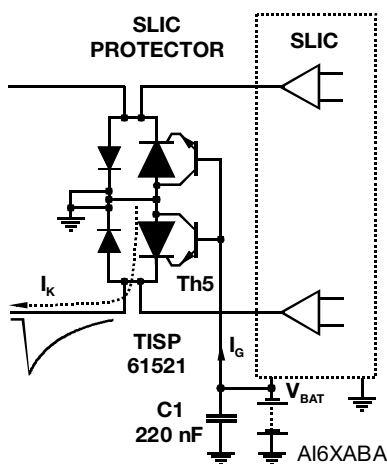
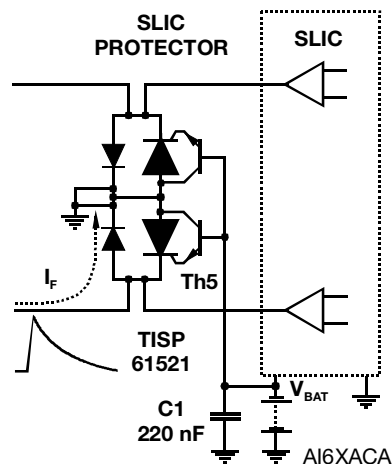
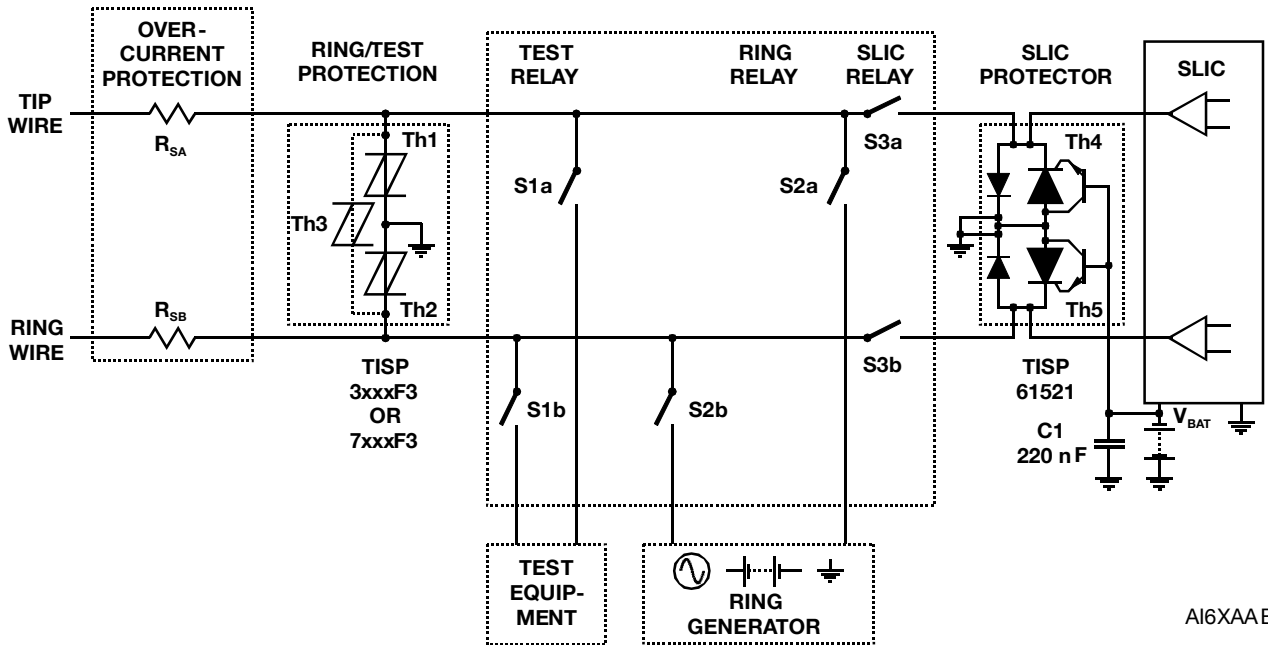

Figure 3. Negative Overvoltage Condition
Figure 4. Positive Overvoltage Condition
Figure 6. Typical Application Circuit
SLICs have become more sophisticated. To minimize power consumption, some designs automatically adjust the driver supply voltage to a value that is just sufficient to drive the required line current. For short lines, the supply voltage would be set low, but for long lines, a higher supply voltage would be generated to drive sufficient line current. The optimum protection for this type of SLIC would be given by a protection voltage which tracks the SLIC supply voltage. This can be achieved by connecting the protection thyristor gate to the SLIC  $V_{BATH}$  supply, Figure 3. This gated (programmable) protection arrangement minimizes the voltage stress on the SLIC, no matter what value of supply voltage.
Figure 3 and Figure 4 show how the TISP61521 limits negative and positive overvoltages. Positive overvoltages (Figure 4) are clipped by the antiparallel diode of Th5 and the resulting current is diverted to ground. Negative overvoltages (Figure 3) are initially clipped close to the SLIC negative supply rail value ( $V_{BATH}$ ). If sufficient current is available from the overvoltage, then Th5 will switch into a low voltage on-state condition. As the overvoltage subsides, the high holding current of Th5 prevents d.c. latching. The protection voltage will be the sum of the gate supply ( $V_{BATH}$ ) and the peak gate-cathode voltage ( $V_{GK(BO)}$ ). The protection voltage will be increased if there is a long connection between the gate decoupling capacitor, C1, and the gate terminal. During the initial rise of a fast impulse, the gate current ( $I_G$ ) is the same as the cathode current ( $I_K$ ). Rates of  $70 \text{ A}/\mu\text{s}$  can cause inductive voltages of 0.7 V in 2.5 cm of printed wiring track. To minimize this inductive voltage increase of protection voltage, the length of the capacitor to gate terminal tracking should be minimized. Inductive voltages in the protector cathode wiring will also increase the protection voltage. These voltages can be minimized by routing the SLIC connection through the protector as shown in Figure 6.
Figure 6 shows a typical TISP61521 SLIC card protection circuit. The incoming line conductors, Ring (R) and Tip (T), connect to the relay matrix via the series overcurrent protection. Fusible resistors, fuses and positive temperature coefficient (PTC) resistors can be used for overcurrent protection. Resistors will reduce the prospective current from the surge generator for both the TISP61521 and the ring/test protector. The TISP7xxxF3 protector has the same protection voltage for any terminal pair. This protector is used when the ring generator configuration may be ground or battery-backed. For dedicated ground-backed ringing generators, the TISP3xxxF3 gives better protection as its inter-conductor protection voltage is twice the conductor to ground value.